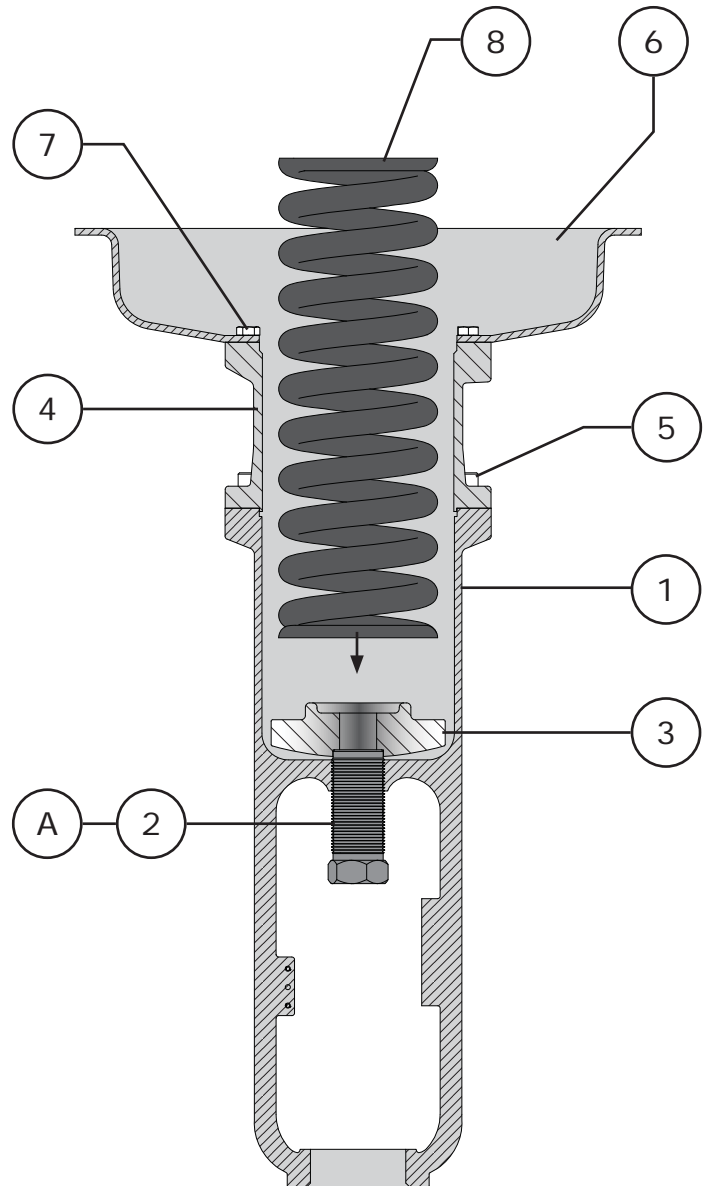

Figure 18 Spring Installation
- 2 Thread the spring adjuster (Key 2) into the hole at top of the yoke window (Key 1) until there is enough of the spring adjuster sticking into the spring barrel portion of the yoke to locate the spring seat (Key 3) on to. Refer to Figure 18.
- 3 Install the spring seat (Key 3) into the yoke (Key 1) and center it onto the spring adjuster (Key 2). Refer to Figure 18.